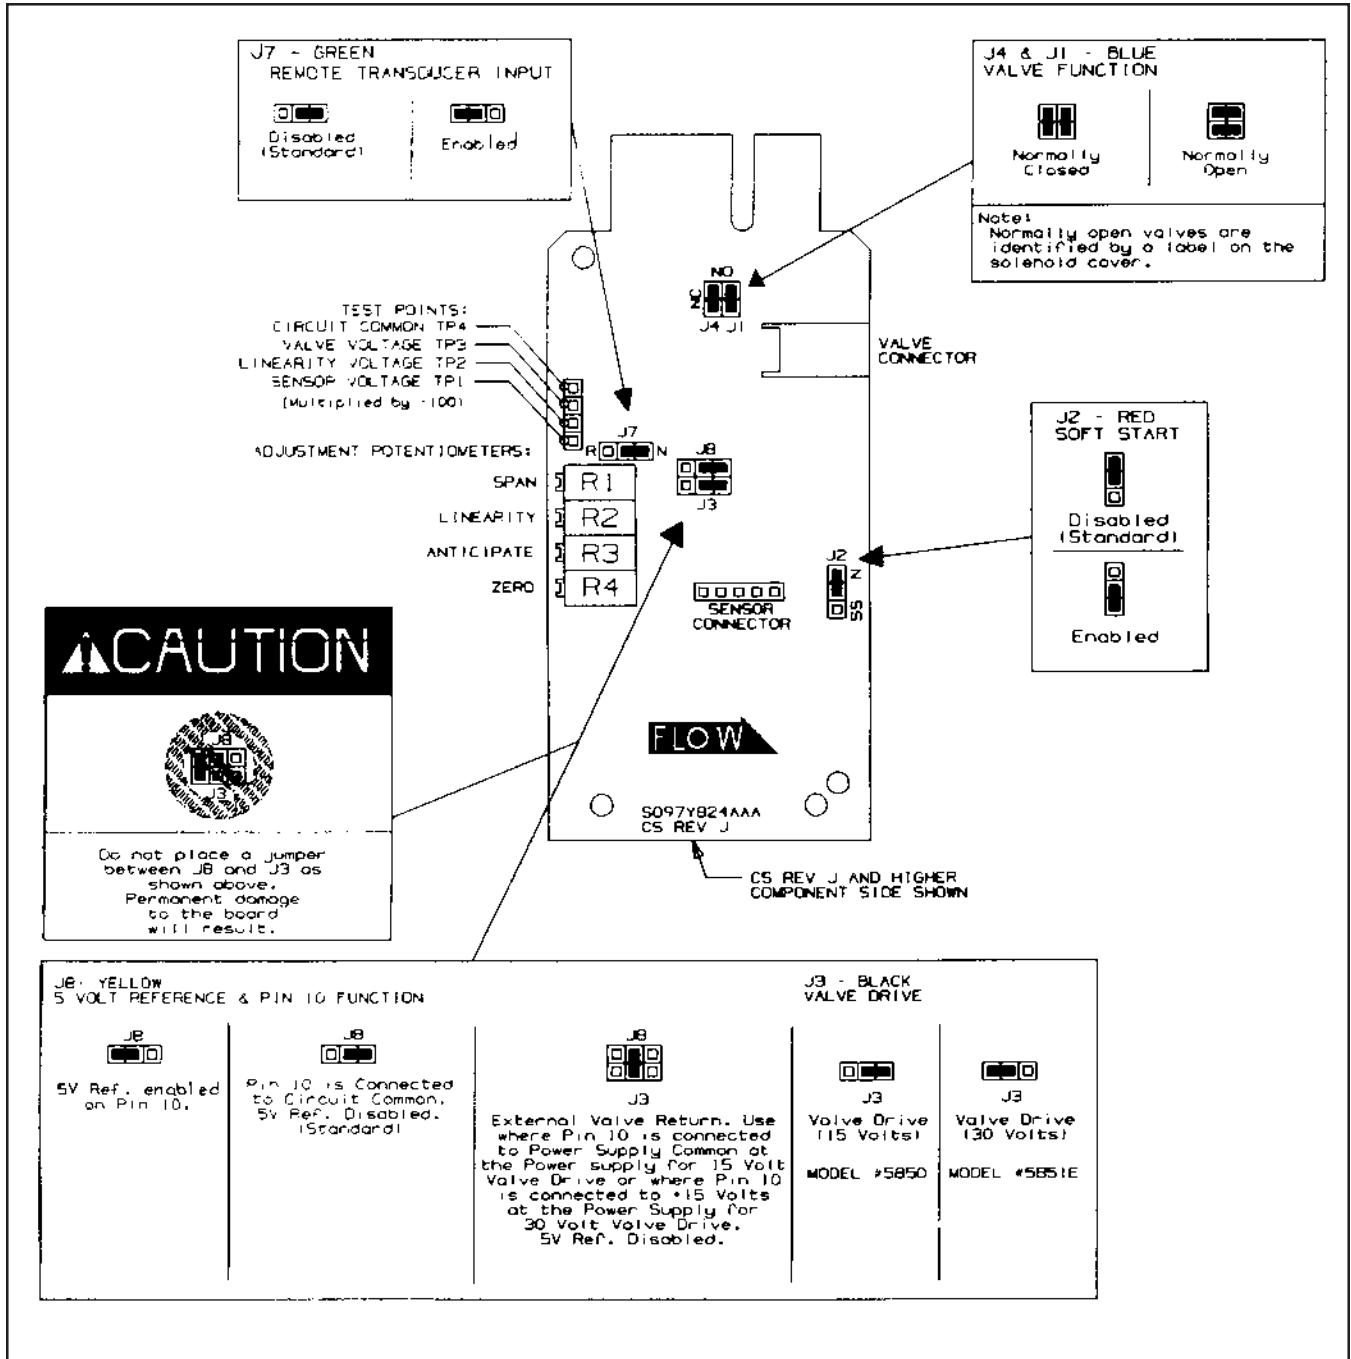

Figure 3-3 Card Edge PC Board Jumper Location & Function
Refer to Figures 3-3, 3-4. To enable soft start, place the jumper on the controller printed circuit board at J2 in the right hand (ss) position.
Refer to Figures 3-3 and 3-4. To allow the Model 5851E control circuitry and valve to be used with an 0-5 Vdc external transducer signal, the jumper at J7 is moved to the lower two pins (R). With this feature enabled a 0-5 Vdc signal may be applied to the external transducer input terminal. The Model 5851E controller circuitry will modulate the valve position to increase or decrease the flow rate to maintain the transducer output at the
4. Verify that all user selectable jumpers are in their desired positions (refer to Figs. 3-3 and 3-4).